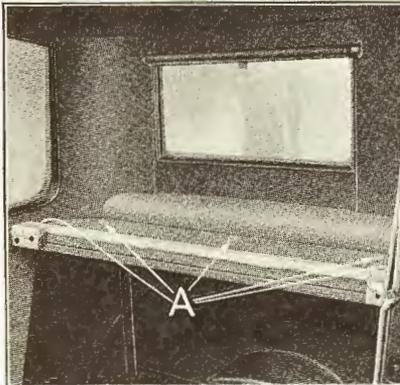

Fig. 568
- 1263** Run off the nuts on the ends of the five spacer board to body bolts (see "A" Fig. 568) and withdraw the bolts.
- 1275** Install spacer board in body, running down the five bolts and nuts (see "A" Fig. 568) which hold spacer board to body.